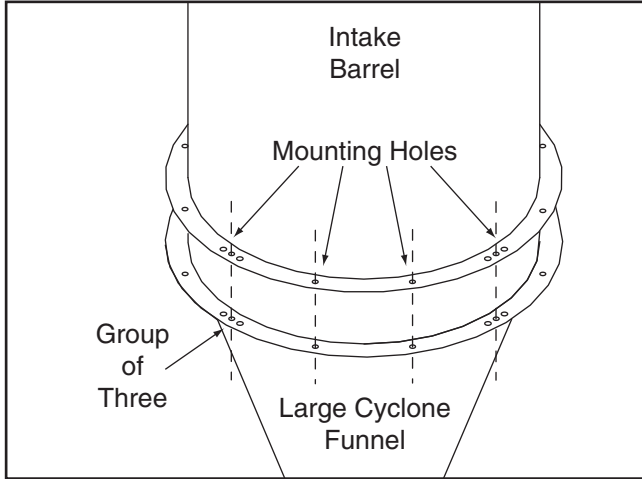

Figure 17. Intake barrel and large cyclone funnel mounting holes aligned.
- With assistance, place the intake barrel over the large cyclone funnel and align the mounting holes as illustrated in **Figure 17**.
- Install the four cyclone mounting brackets with (8) $\frac{3}{8}$ "-16 x $1\frac{1}{4}$ " hex bolts, (16) $\frac{3}{8}$ " flat washers, and (8) $\frac{3}{8}$ "-16 lock nuts (see **Figures 17 & 19**).